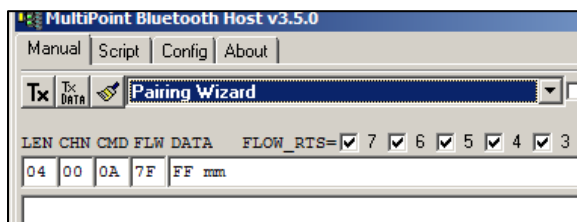

Figure 49: Select **Pairing Wizard**
3. From the drop-down list, select **Pairing Wizard** (Figure 49).